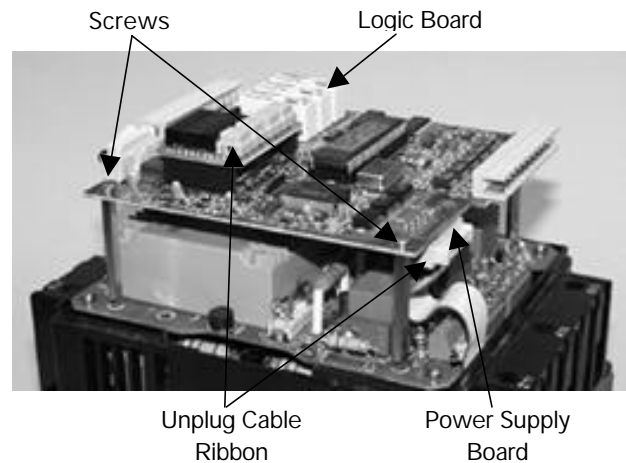

Figure 3. Logic board and part locations.
2. Unplug the two ribbon cables from the Logic Board, as shown in Figure 3.